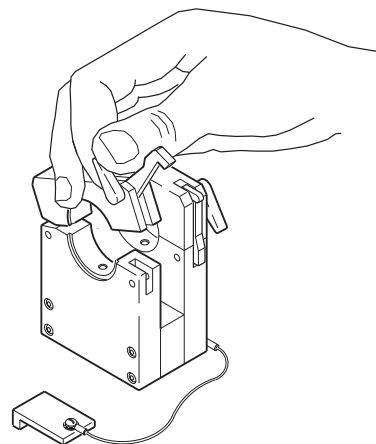

Figure 11 Opening the Fixture Block
1. Release both levers and open the tube fixture block. See Figure 11.